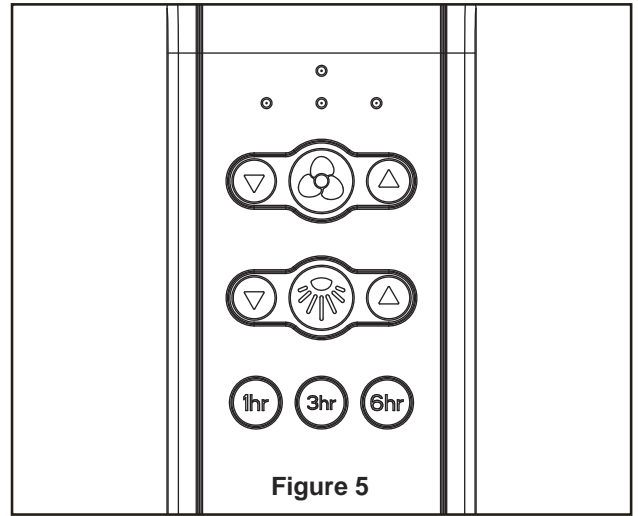

Figure 5
- 5. Attach the safety cable to ceiling support cable. Slide cable clamp onto safety cable (from fan). Place the end of cable through the loop of ceiling support cable. Pull as much cable through loop as possible. Feed end of cable into clamp hole and firmly tighten screw (Figure 5). Cut off excess safety cable.
5. Assemble the upper LED plate assembly to the light kit assembly using the two key slots in the upper LED plate assembly. Replace the third screw and securely tighten all three screws. (Figure 5)
5. Remote functions: (Figure 5)